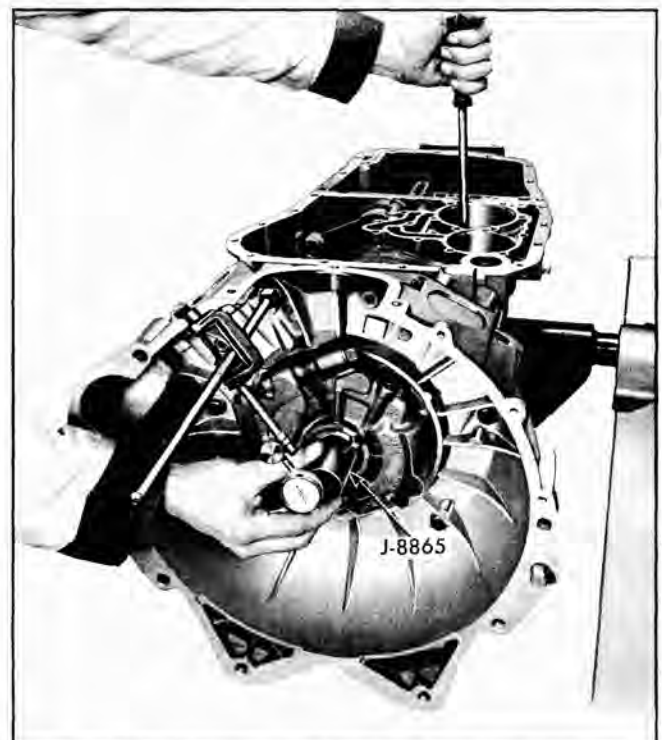

Fig. 47 Check Front Unit End Play
a. Remove one case cover to case attaching bolt and install dial indicator support J-6126 into transmission case (Fig. 47).
d. Position a screwdriver through case, behind the flange on the output shaft (Fig. 47).